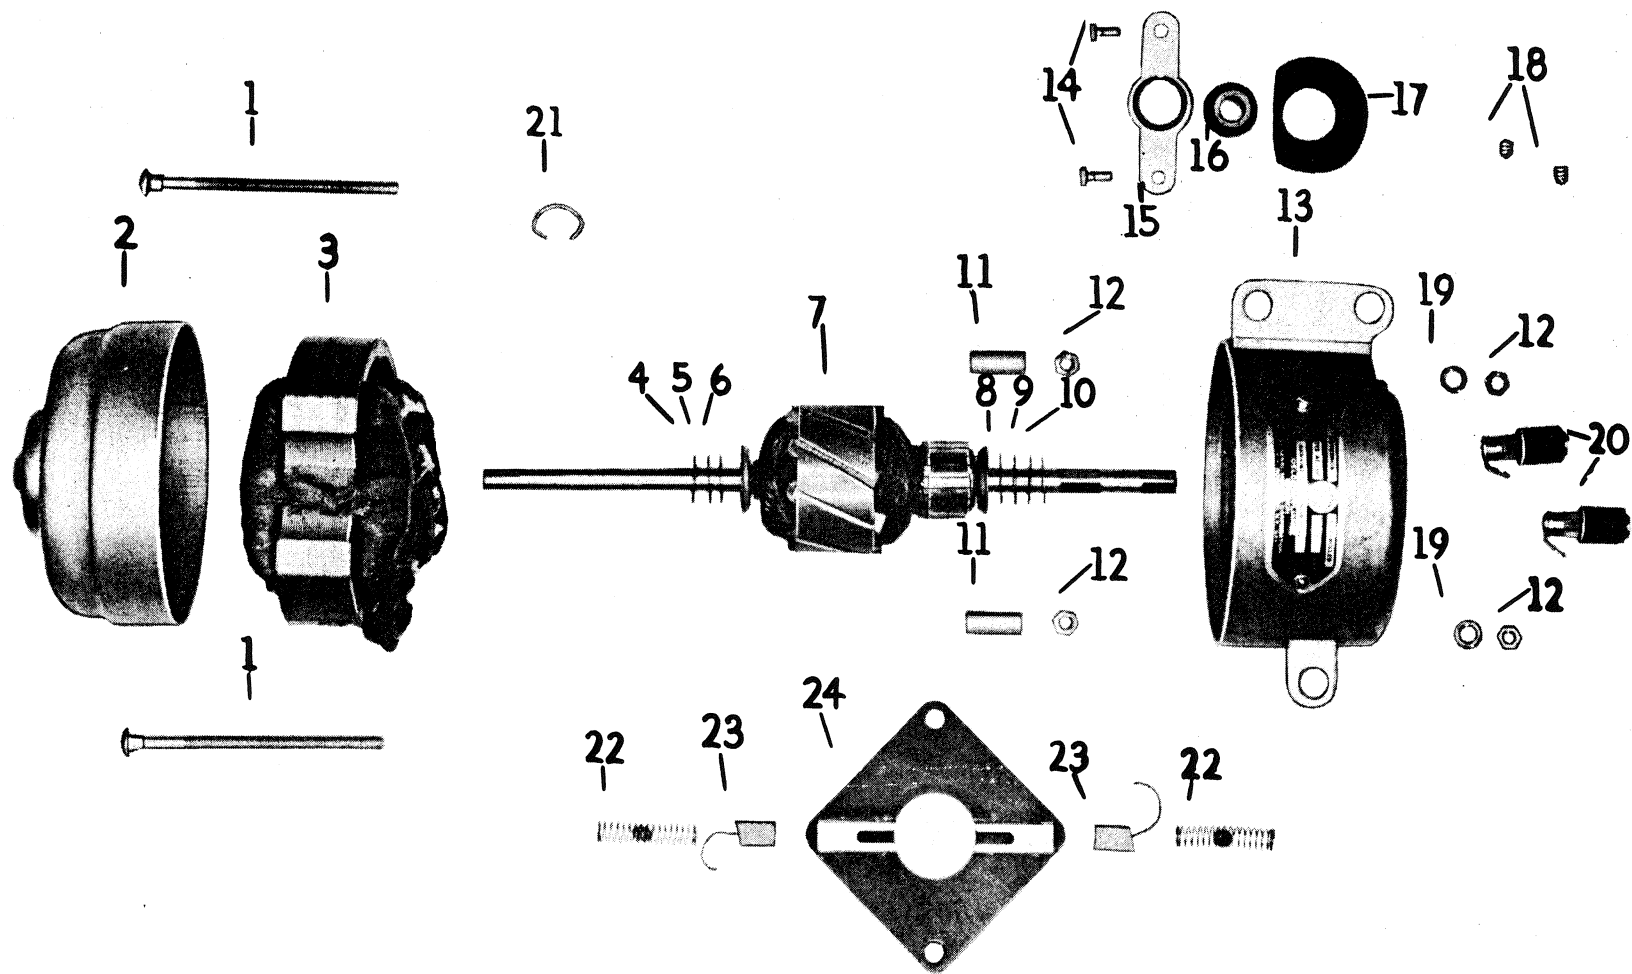

Figure 8 - MOTOR (Exploded view)
- b. Disassembly (See Fig. 8) - Loosen the two setscrews which hold the motor pulley in place and remove the pulley. Loosen the two setscrews which hold the governor in place and remove the governor and brushes. Remove the two tie bolt nuts (12) and lockwashers (19) and the staple (21). Separate the rear case assembly (2) from the commutator end housing (13). Code the motor brush holder (24) and leads and mark the brush holder and fields for alignment.